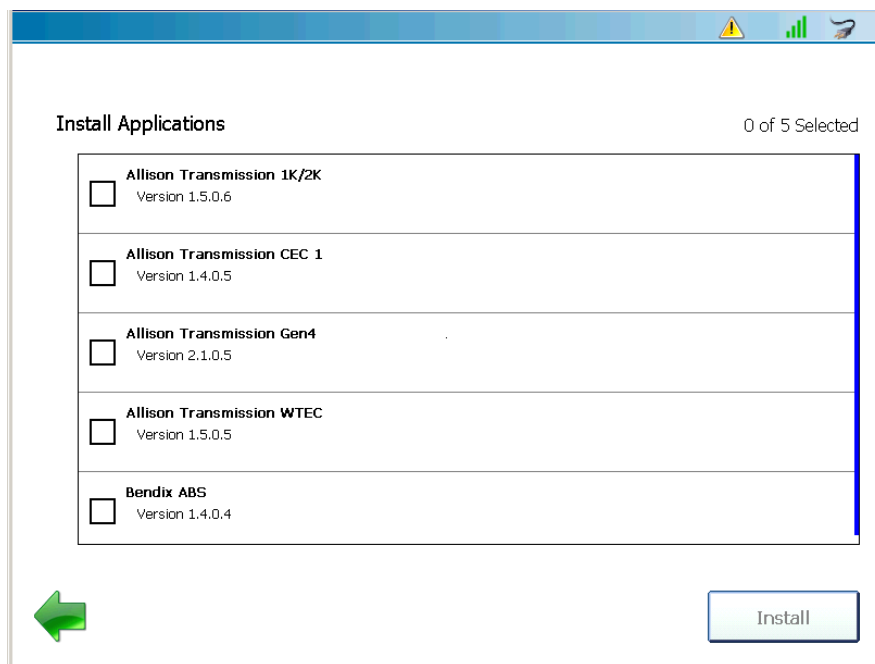

Figure 5.15 *Install Applications Screen*
-  Depending on the number of updates, this process may take several minutes. Also, you *cannot* install updates individually. You can, however, install software applications individually (as opposed to a system bundle for example) but you must do this from the Install Applications screen (see Figure 5.15, on page 130).